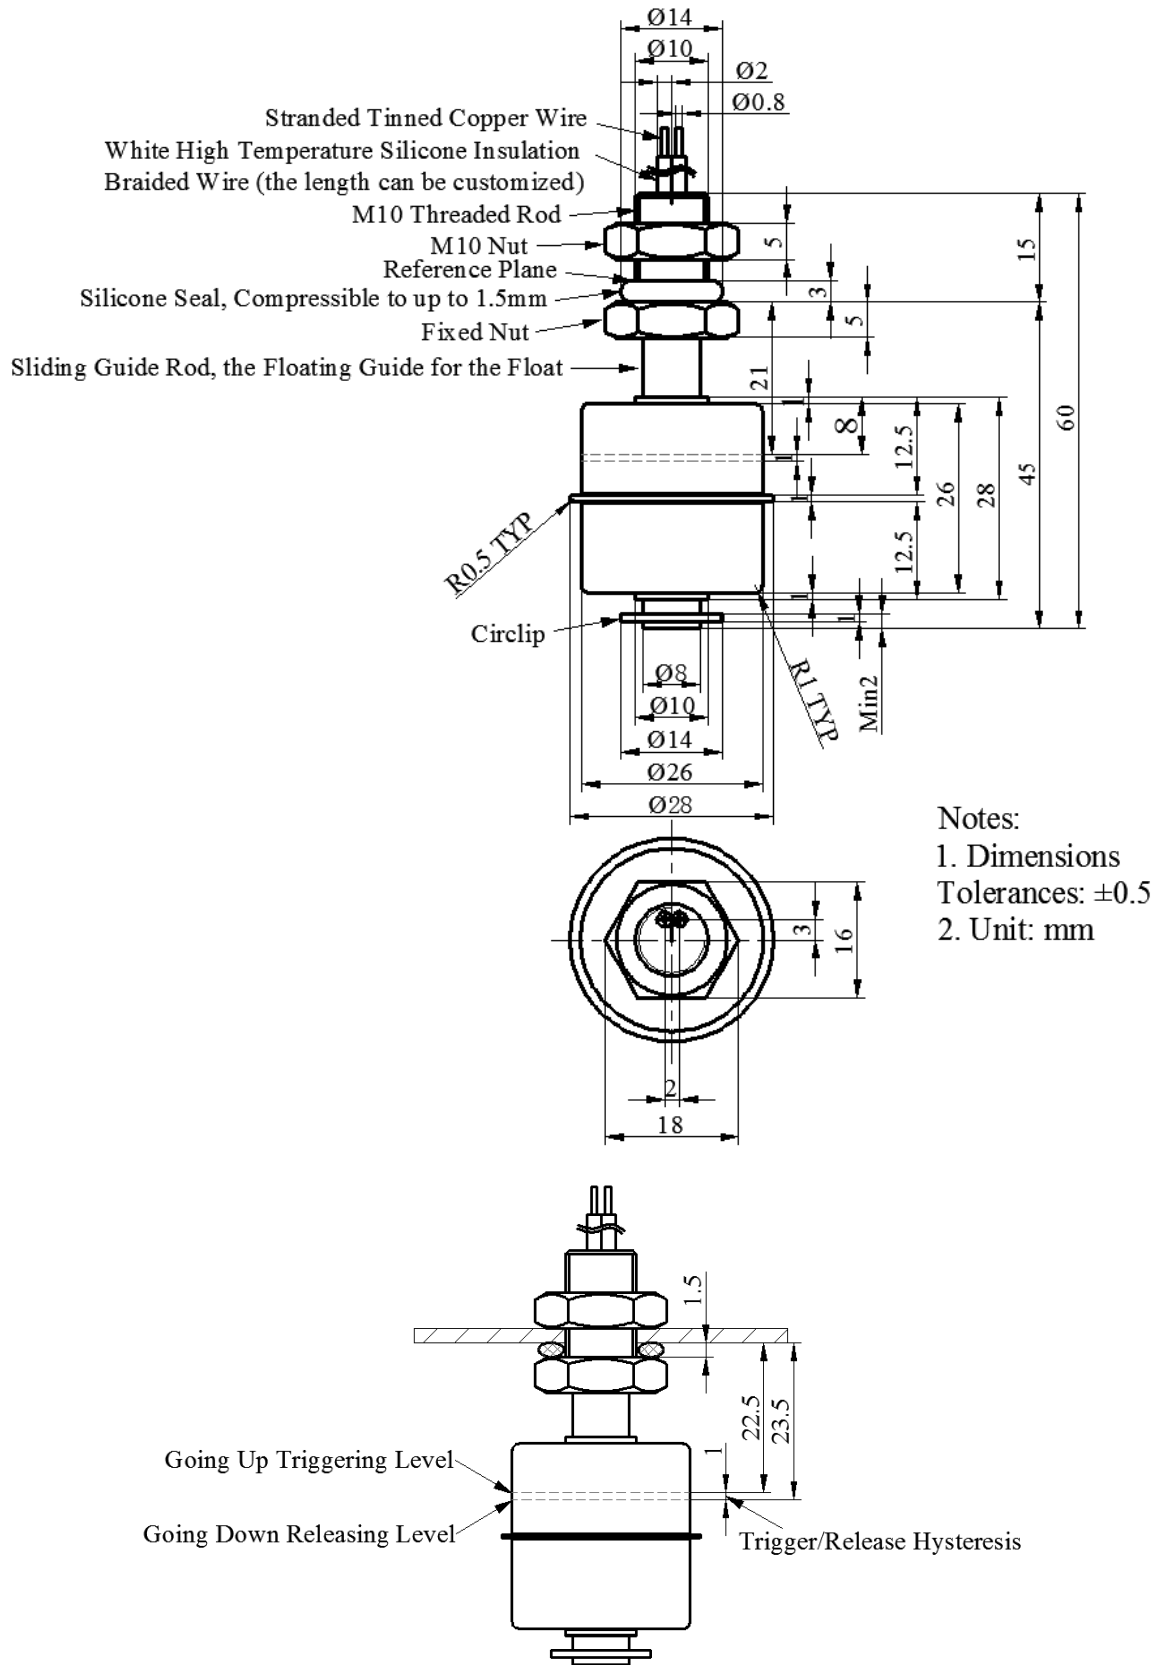

Figure 5. Swapping Float Orientation for Normally Open or Normally Closed
Figure 5 shows how to switch the float between normally open and normally closed.
2. Reverse the float mounting orientation as shown in Figure 5;